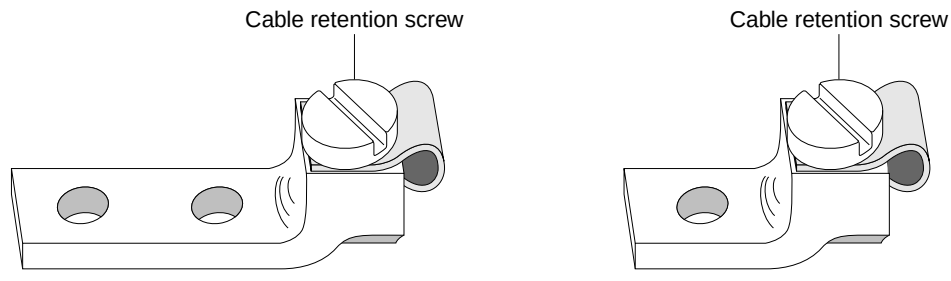

Figure 1: 2-stud -40 V and RTN lug, and 1-stud ground lug
- 3 Tighten the cable retention screw, using a $\frac{1}{4}$ " or $\frac{5}{16}$ " flathead screwdriver, to 20 in-lbs of torque. The cable retention screw is shown in Figure 1.